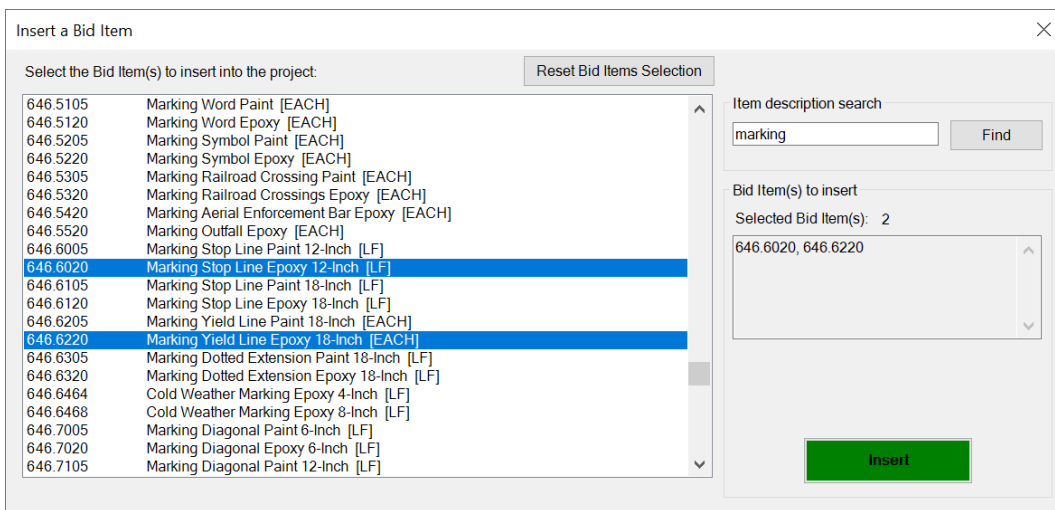

Figure 8.5 “Insert a Bid Item” dialog box.
- Select the desired bid item(s) from the “Insert a Bid Item” dialog box (Figure 8.5) to add to the existing MQ sheet and select “Insert” when finished.